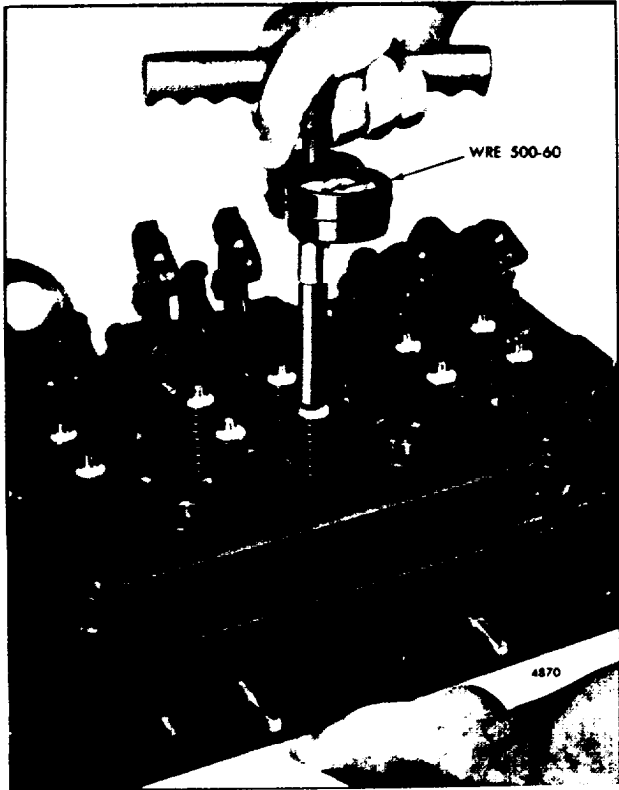

Fig. 16 - Checking Valve Opening Pressure
10. With the exhaust valves installed in the cylinder head, use spring checking gage WRE -500-60 and note the gage reading the moment the exhaust valve starts to open (Fig. 16). The minimum pressure required to start to open the exhaust valve must not be less than 25 pounds for a four valve cylinder head.